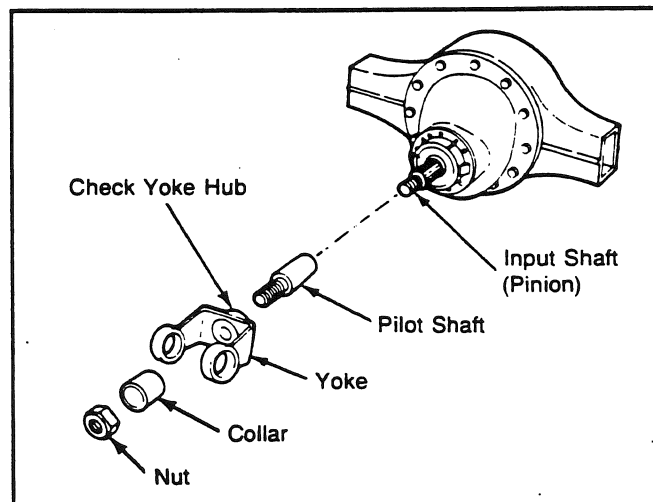

Fig. 38
- Use the three-piece pilot tool as follows (see Fig. 38):